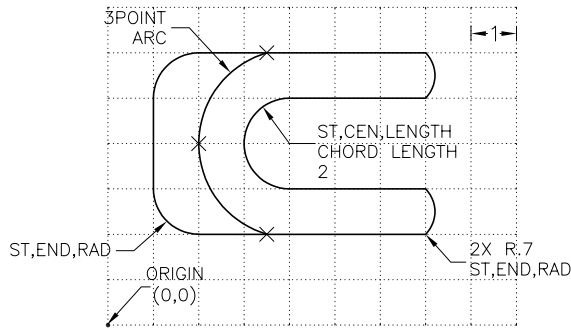

Figure 3-18 Drawing for Exercise 5(b)
- Draw the profile shown in Figure 3-18. The distance between the dotted lines is 1.0 unit. Create the radii as indicated in the drawing by using the **Arc** tools.